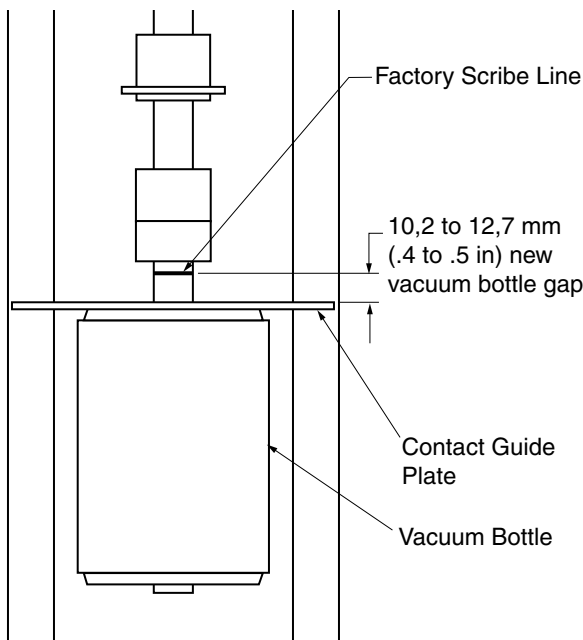

Figure 11.
21. Measure the contact travel by measuring the distance from the top of the contact guide plate to the scribe line created in Step 19. See Figure 11. Measurement must be 10,2 to 12,7 mm (.400 to .500 in).